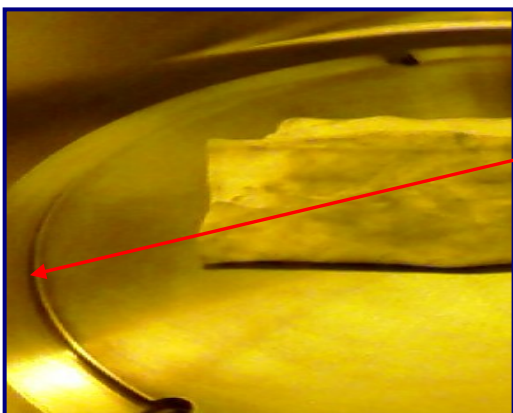

Fig 33 & 34: Process build-up on the edge of heater missed during initial scrub of Degas Chamber
Step 20: After wiping entire chamber with MiraWIPE® and DI water, do a thorough **INSPECTION** of the entire Degas Chamber looking for areas containing process buildup that may have been missed during initial scrub (See Fig 33 & 34)